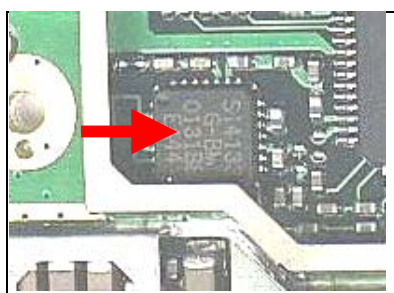

Fig. 2.4
- Replace the U507 if there is no 216 Hz digital signal output at pin 23. (Fig2.4)